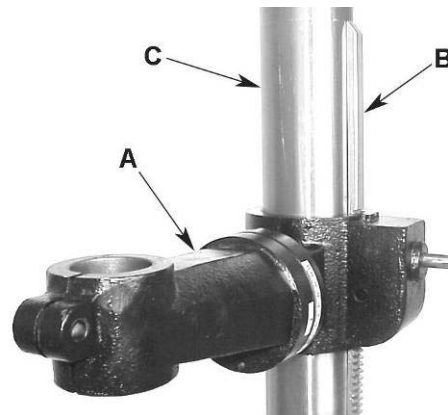

Figure 2
Referring to Figures 2 and 3:
1. Remove the wrap and take the *rack ring* (D) and *rack* (B) off the *column* (C).
2. Install the table bracket (A) together with the rack (B) as shown in Figure 2.